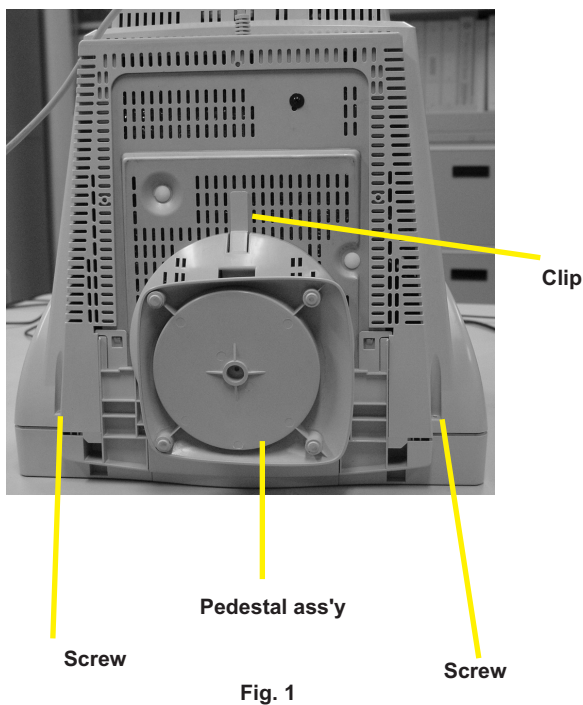

Fig. 1
1. Remove the rear cover in Fig. 1.